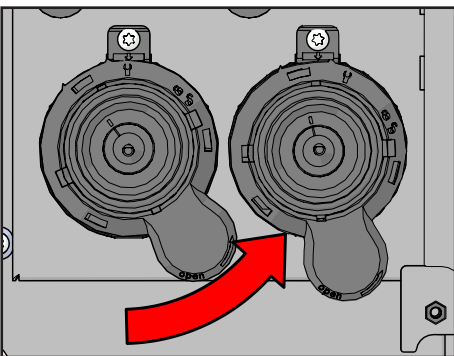
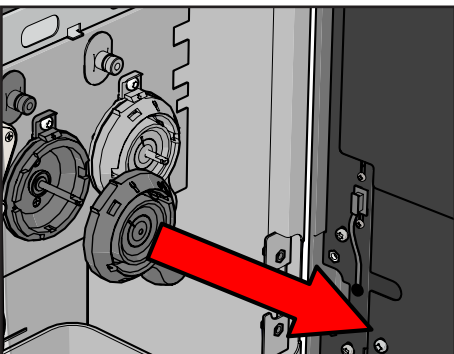

Figure 55. Turn mixer ring further
Figure 56. Remove mixer ring
10. Remove the mixer ring by turning it further counter-clockwise and pulling it from the base. (see Figure 55 and Figure 56).